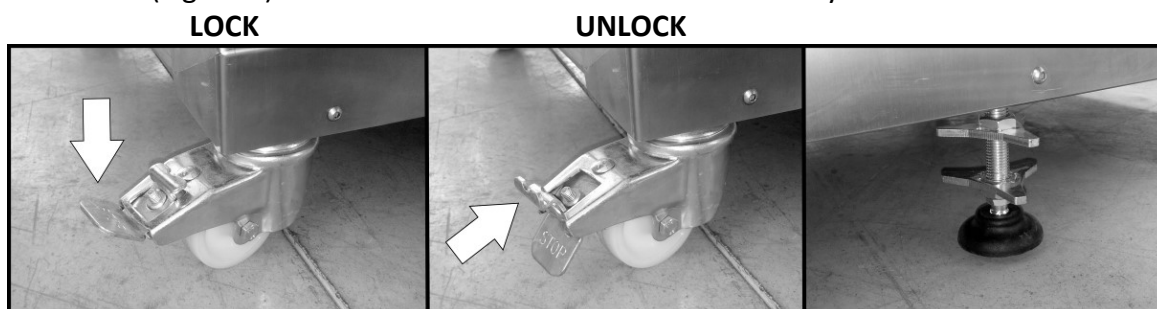

Figure 7
Ensure that there is enough space around the machine to operate comfortably and to correctly carry out any cleaning, adjustment and/or maintenance operations. Brake the wheels by lowering the dedicated levers (Figure 7) and fasten the feet to increase the stability of the machine.
- Before using the dough sheeter, ensure that all the wheels fitted with brakes are blocked (see Figure 7) and that the feet are correctly positioned